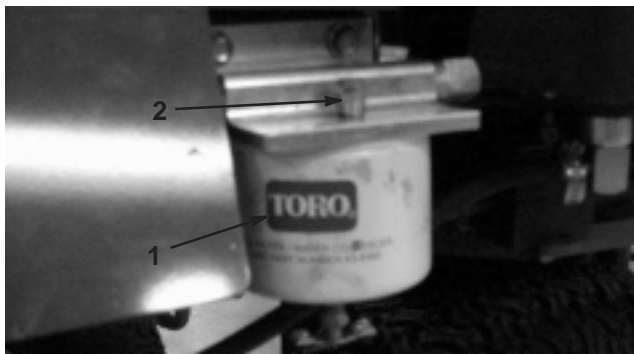

Figure 35
2. Loosen air bleed screw on top of fuel filter/water separator (Fig. 35).